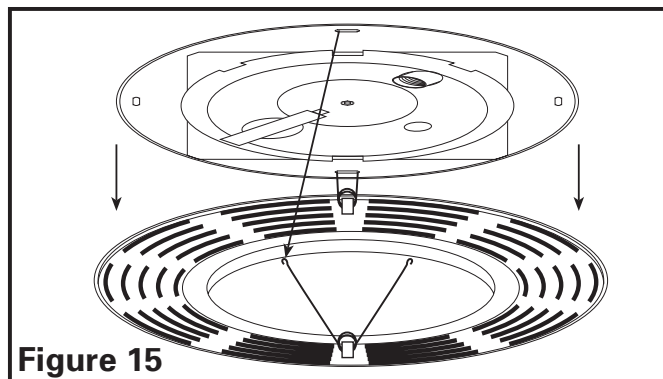

Figure 15
3. **Changing the Light Bulb:** Disconnect power to the unit. Remove grill by pulling downward on grill and squeezing grill springs together to release from housing (**Figure 15**). Remove light bulb and refer to instructions in **Section 6 Completing the Installation**, to complete the light bulb change and installation of grill.